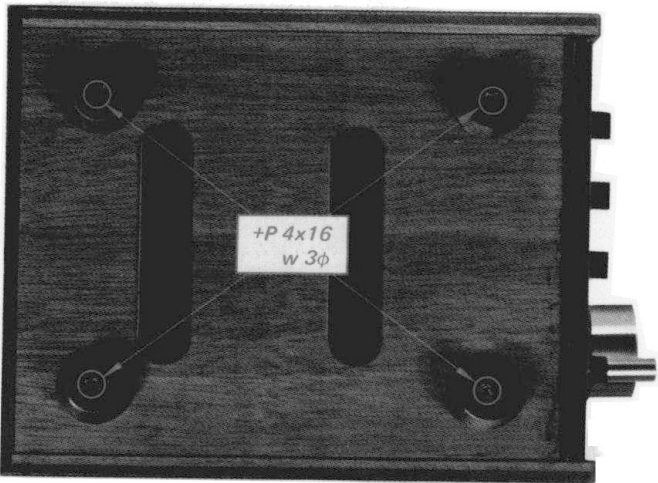

Fig. 2-2. Bottom screw removal
1. Remove the four screws (+P4x16) securing the wooden case to the chassis with rubber foot. See Fig. 2-2.